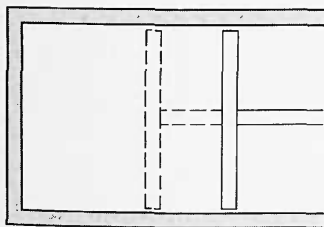

Figure A127
**69(L)** Gas at pressure  $p$  occupies a volume  $V$  in the cylinder shown in figure A127. The area of the piston is  $A$ .